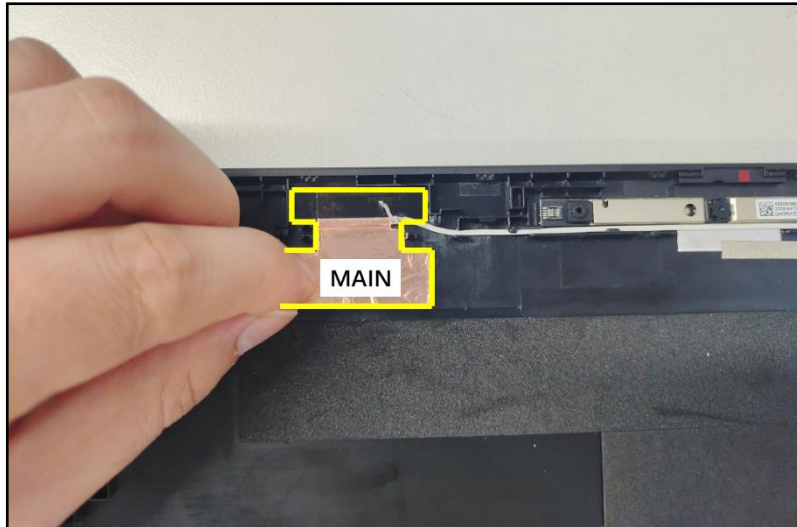

Figure 3-50. WLAN Antenna Removal
2. Gently peel off the MAIN antenna and its grounding foil (Figure 3-50). Then remove the MAIN antenna from the LCD cover.